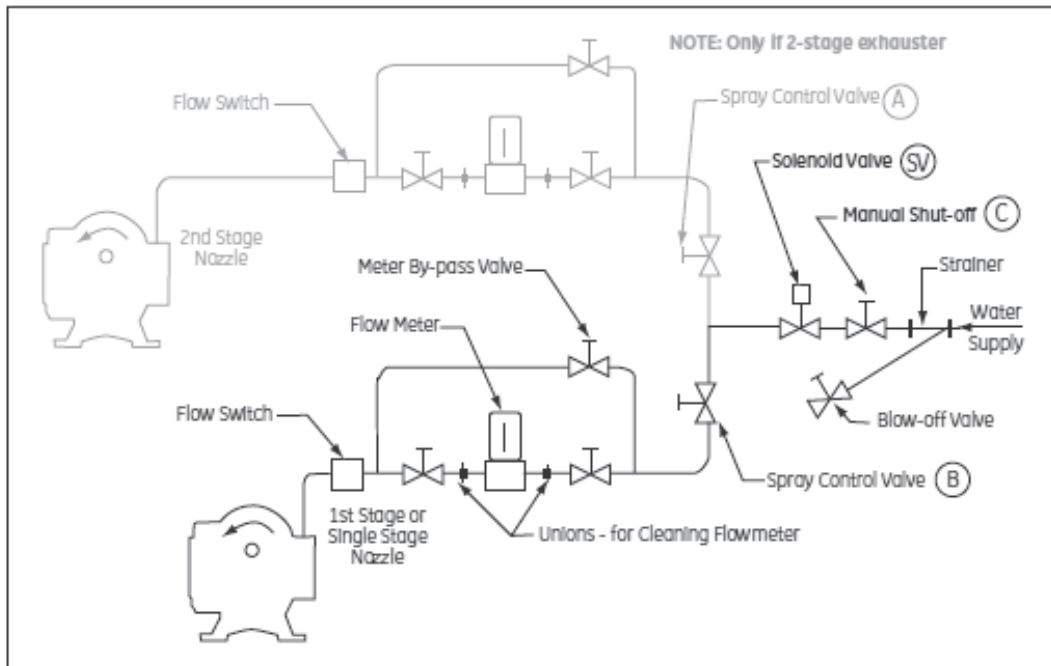

Figure 3f - Seal Water Control Piping Diagram
❑ Turn on sealing water supply by opening the manual shut-off valve (C in Figure 3f). Water will not flow to the spray nozzle yet since solenoid operated valve (SV) is electrically held closed until de-energized by the motor starter.